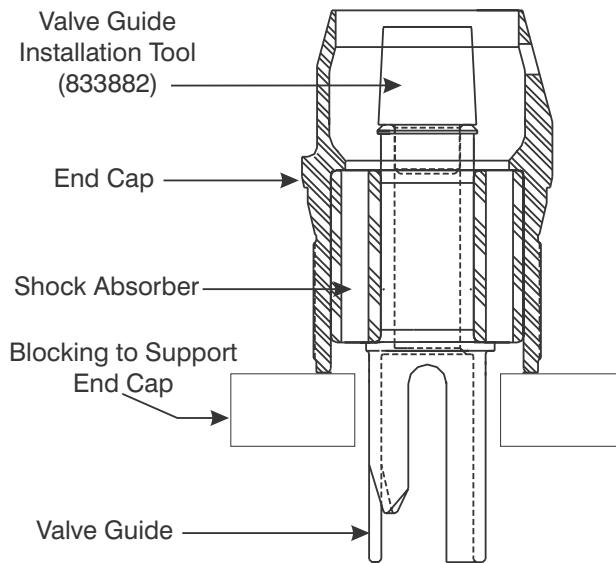

Figure 8-21. Insert Valve Guide Tool into Valve Guide.
2. With threaded end down, place the End Cap (15) in the arbor press as shown in Figure 8-21.